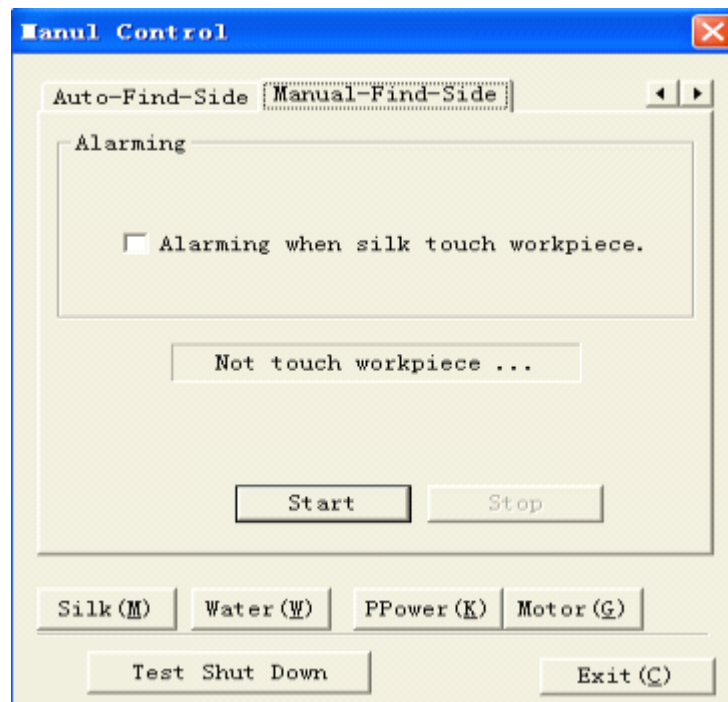

Figure 5.23: Manual Find-Side Alarm
4) Manual-Find-Side (Figure 5.23)